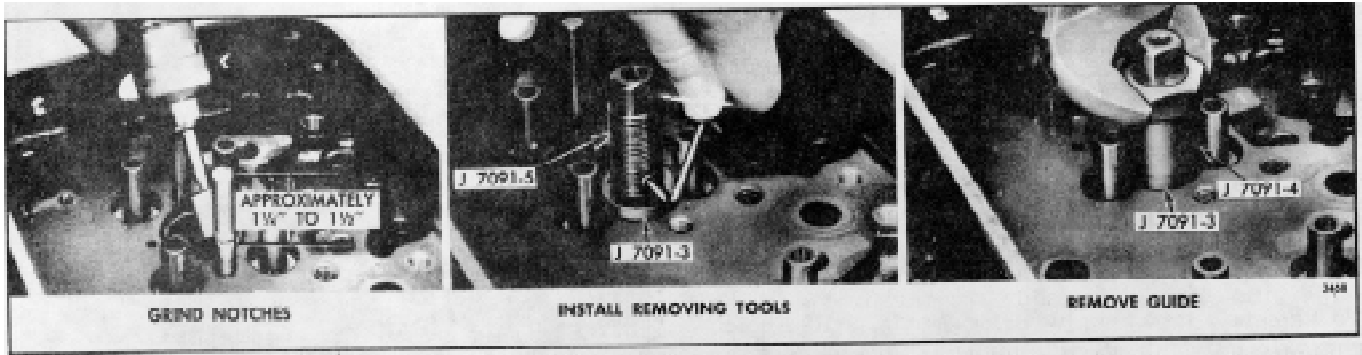

Fig. 10-Removing Press-Fit Exhaust Valve Bridge Guide
2. Remove the press-fit guide (Fig. 10) with tool set J 7091-01 as follows: